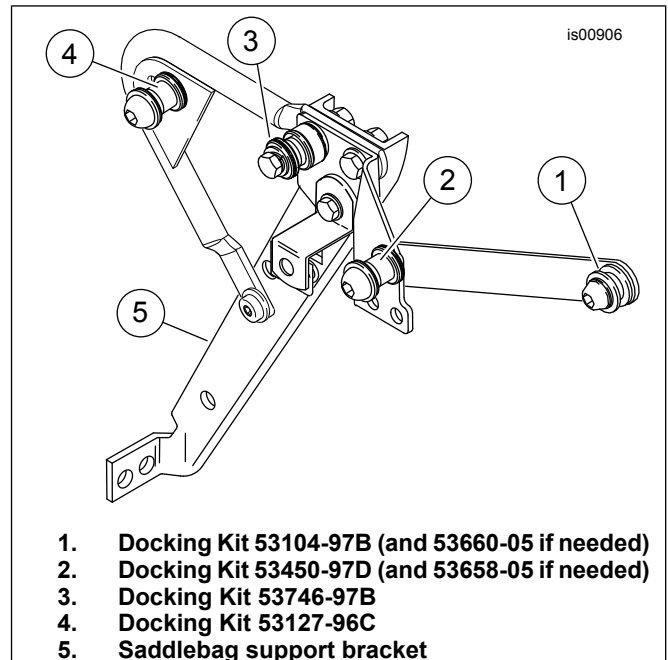
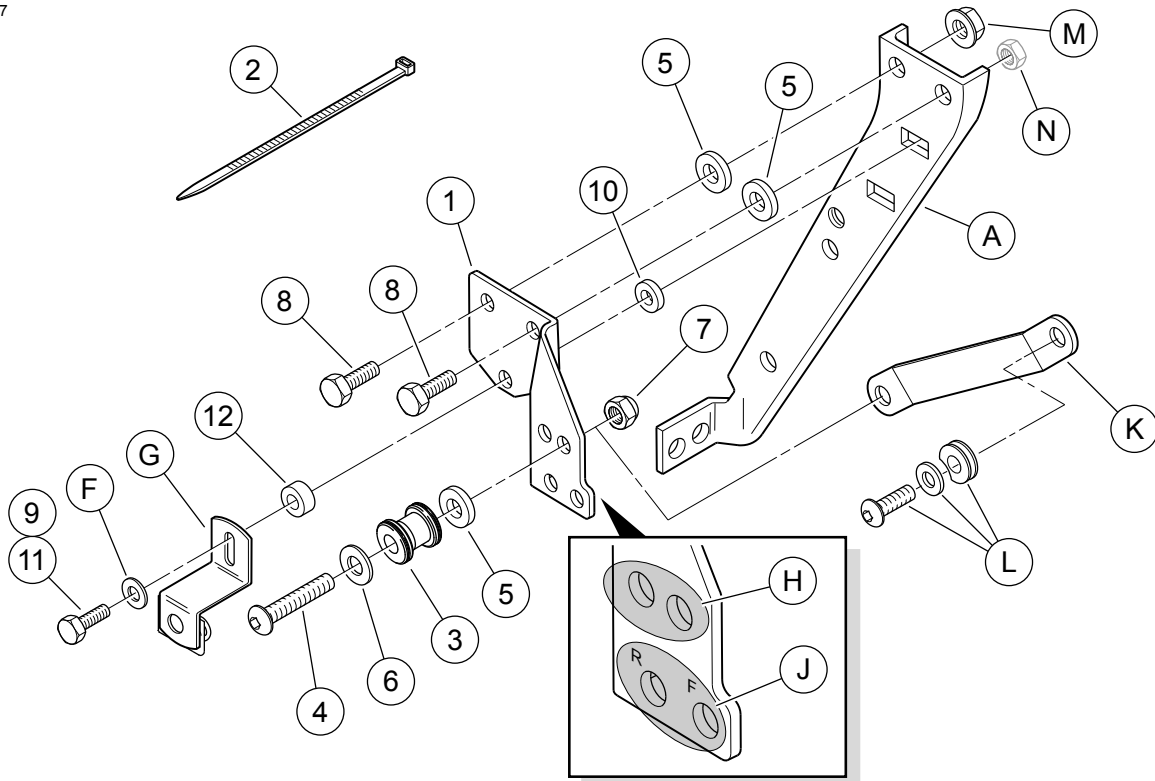
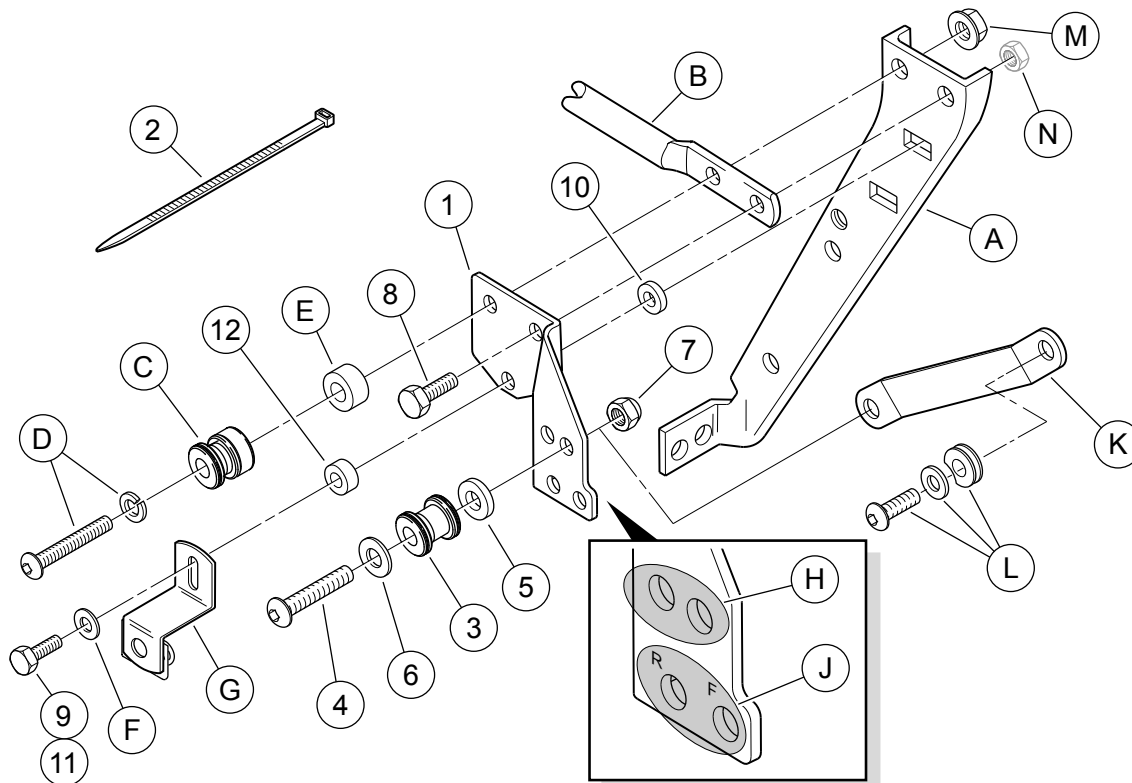

**Figure 4. Proper Alignment of Latch in Right-Side Docking Point (Viewed from the Rear)**
Figure 6. Installation WITHOUT Docking Kits 53127-96C and 53746-97B
Figure 7. Installation WITH Docking Kits 53127-96C and 53746-97B
See Figure 6 or Figure 7 and Table 2.
1. See Figure 6 or Figure 7. Assemble the docking hardware as shown.
a. Position the mounting bracket (1) on one side of the motorcycle. Note that the mounting brackets are side-specific. The letters stamped near the lower holes must face outward, and identify the front (F) and rear (R) positions.
b. **Without Docking Kit installation at positions 3 and 4** (see Figure 6 ): Install the mounting bracket using a 5/16-18 x 1-inch (25 mm) long screws (8) in the upper two holes, with 1/8-inch (3.2 mm) thick spacers (5) placed on each screw, between the mounting bracket (1) and the original equipment saddlebag support bracket (A). **With Docking Kit installation at positions 3 and 4** (see Figure 7 ): Install the mounting bracket using a 5/16-18 x 1-inch (25 mm) long screw (8) from **this** kit in the upper front hole, and a 5/16-18 x 2-1/4 in. (57 mm) long screw and lockwasher (D), docking point (C) and 0.386 in. (9.8 mm) thick spacer (E) **from Docking Kit 53746-97B** in the upper rear hole, through the rear docking bracket (B) **from Docking Kit 53127-96C** placed between the mounting bracket (1) and the original equipment saddlebag support bracket (A).
8. See Figure 4, Table 1, and Figure 6 or Figure 7. Place a washer (6) onto the threads of a button head screw (4) from **this** kit. Place a docking point (3), oriented as shown, over the screw threads, followed by a spacer (8).
9. For **1994 through 1996** models, insert the screw threads through the rearmost hole (H) in the mounting bracket (1) as shown. For **1997 and later** models, insert the screw threads through the frontmost hole (H) in the mounting bracket (1) as shown. Insert the screw threads through the larger hole in bracket 53805-99 (item K, part of the Rack or Sissybar Upright Kit) and fasten loosely in place with a locknut (7). Leave the locknut slightly loose for docking-point adjustment in the next step.